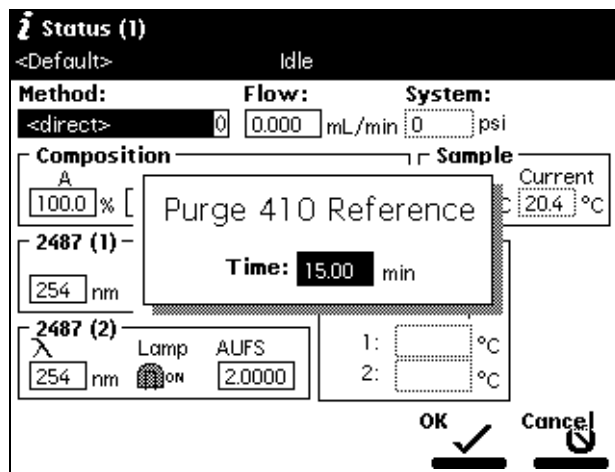

Figure 4-12 Purge 410 Reference Dialog Box
3. Select **Purge 410 Reference**, then press **Enter**. The Purge 410 Reference dialog box appears (see Figure 4-12).